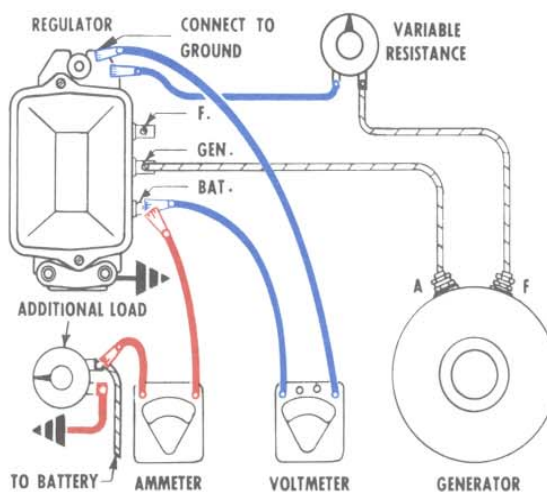

Figure 16—Connections for checking generator output and voltage drop check.
GENERATOR OUTPUT CHECK— (Connect as shown in Figure 16).
2. Connect a voltmeter and an ammeter into the charging circuit as shown in Figure 16.
6. Turn off all accessory load and disconnect any added load as shown in Figure 16.